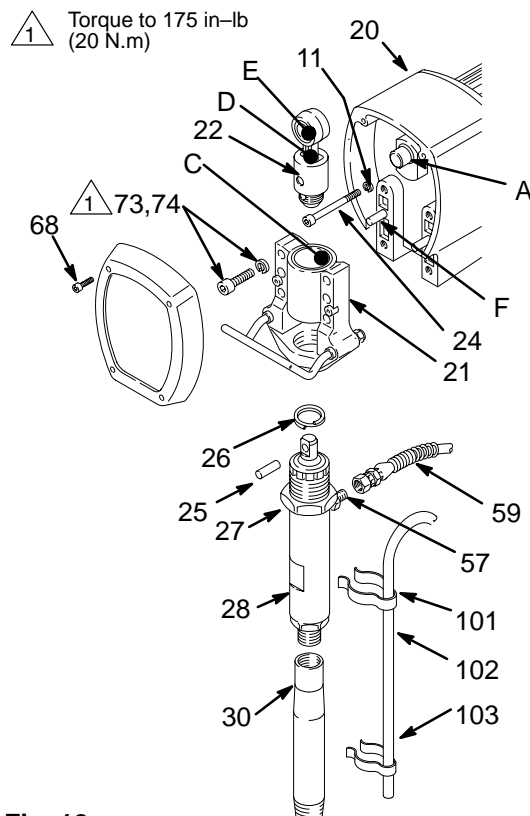

Fig. 18
**NOTE:** Steps 1 to 10 refer to Fig. 18.
2. Remove the four screws (73) and lockwashers (74) from the bearing housing (21).
3. While pulling the connecting rod assembly (22) with one hand, lightly tap the lower rear of the bearing housing (21) with a plastic mallet to loosen it from the drive housing (20). Pull the bearing housing and the connecting rod assembly off the drive housing.
4. Inspect the crank (A) for excessive wear and replace parts as needed.
5. Evenly lubricate the inside of the bronze bearing (C) in the bearing housing (21), and the inside of the connecting rod link (D), with high-quality motor oil. Liberally pack the roller bearing (E) in the connecting rod assembly (22) with bearing grease.
6. Assemble the connecting rod (22) and bearing housing (21).
8. Align the connecting rod with the crank (A). Align the locating pins (F) in the drive housing (20) with the holes in the bearing housing (21). Push the bearing housing onto the drive housing or tap it into place with a plastic mallet.